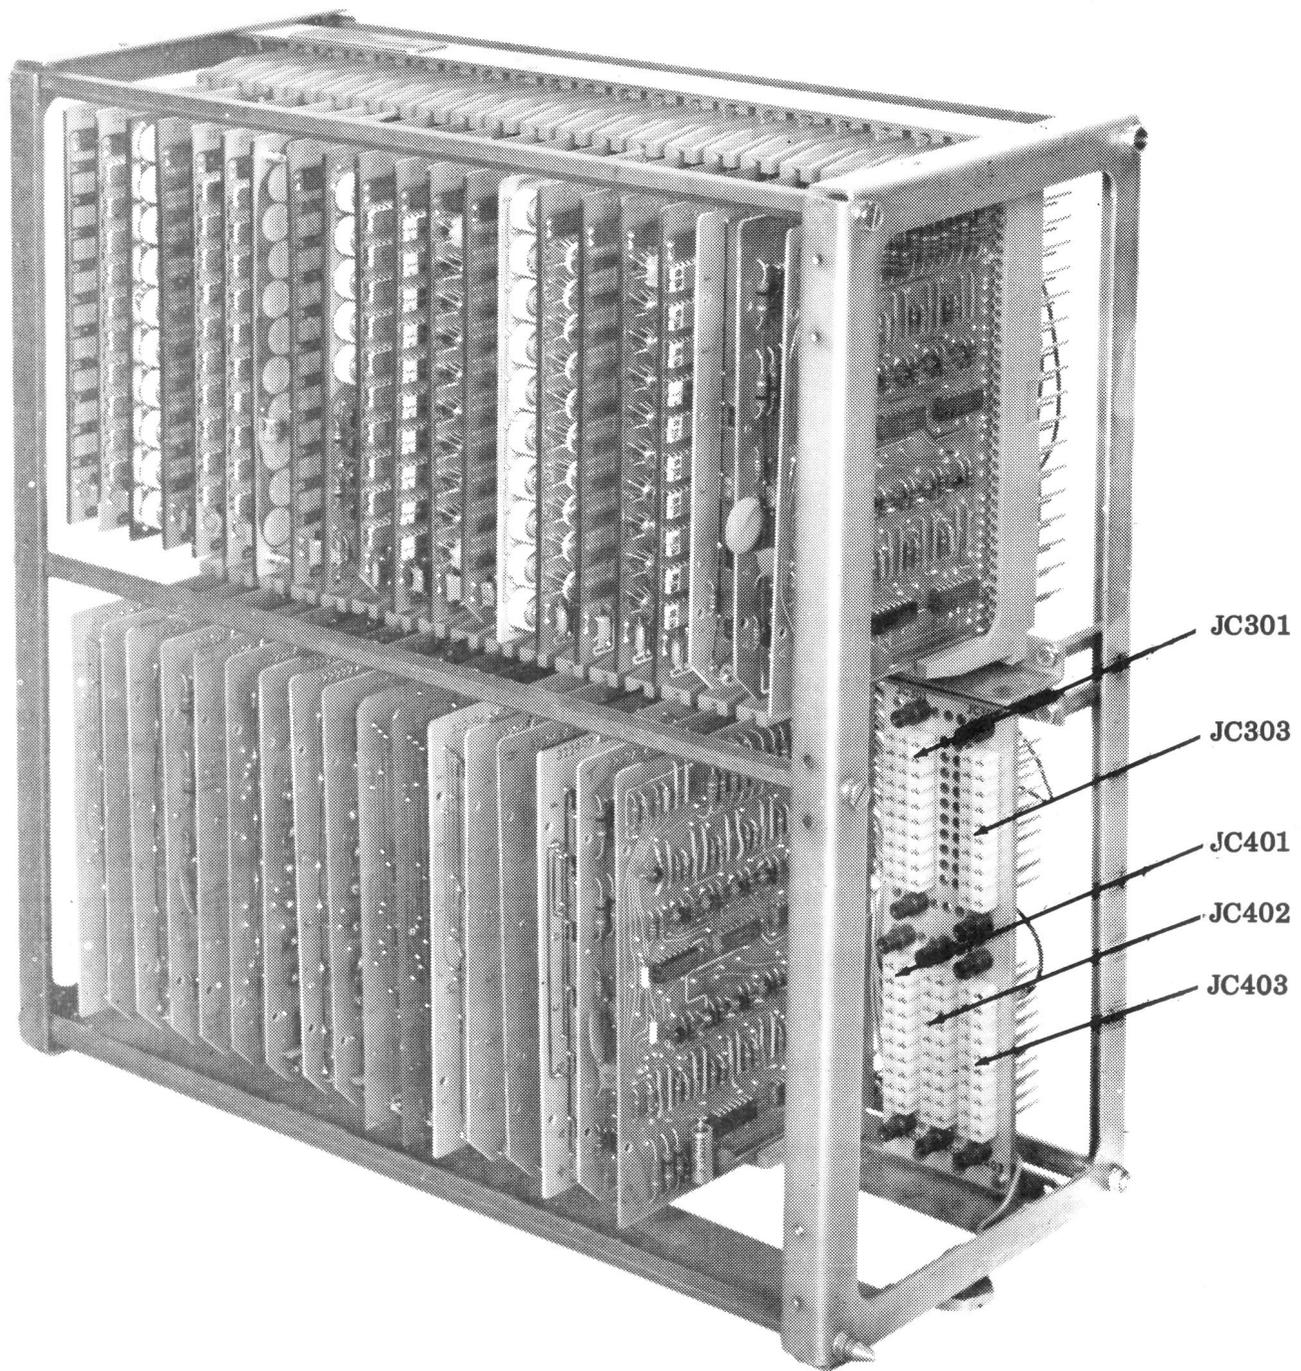

Figure 1 - Buffer Unit Cable Connectors
4.03 The location of the connectors listed on the chart are shown in Figure 1.